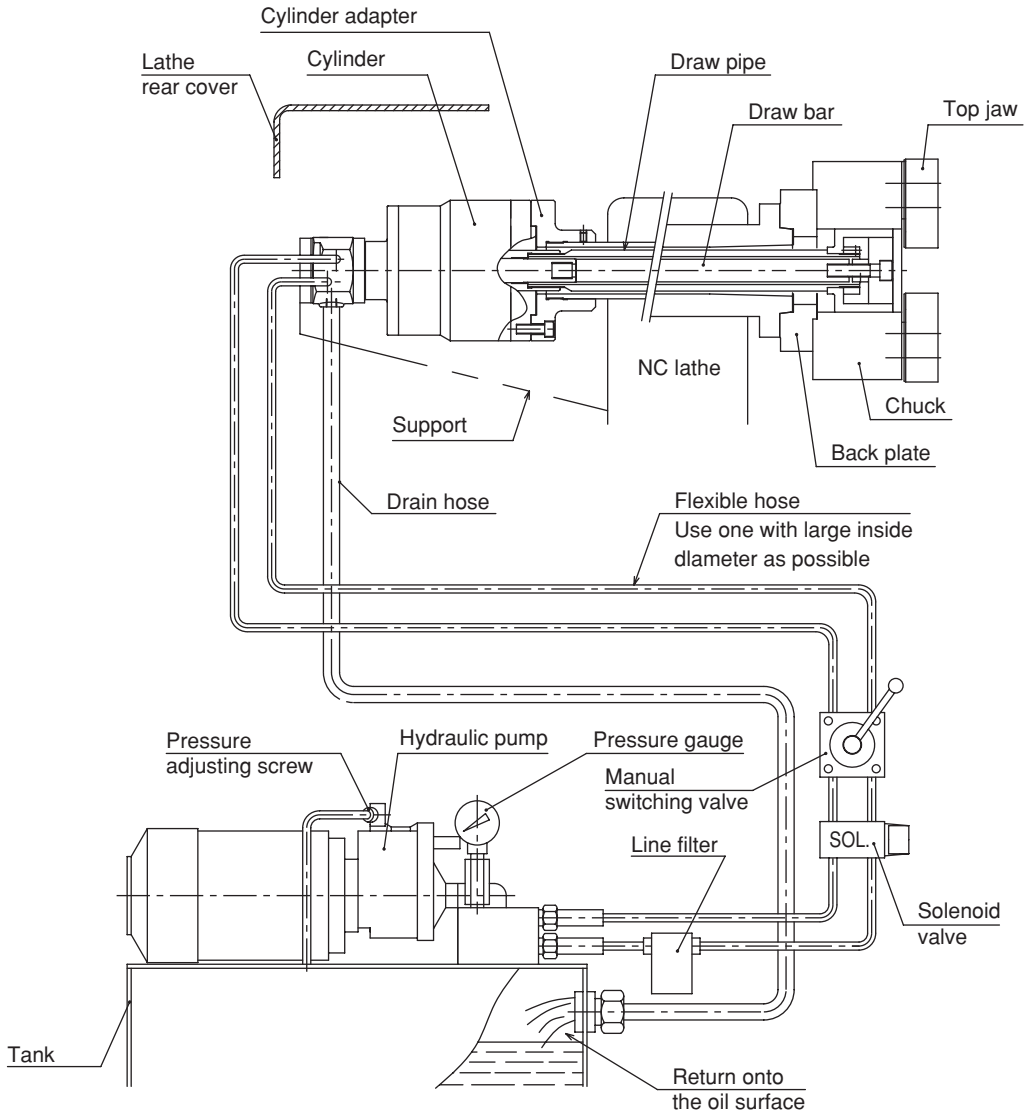

Fig.8
- The end of the hose is physically above the oil level. (Refer to Fig.8)
- Arrange the drain hose to come back to the above of oil tank surface of the hydraulic unit. (Fig.8) If the drain hose is connected to T-port such as valve black, etc., the oil seal of cylinder will damage because backpressure is applied to the hose.